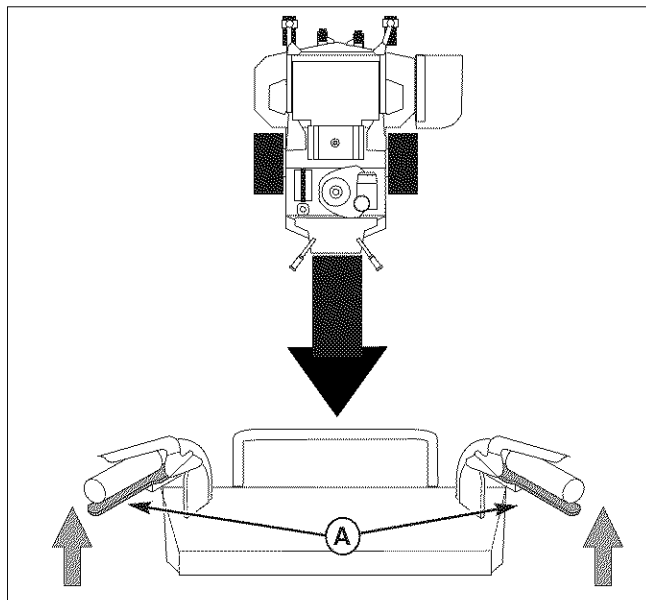

Figure 12. Reverse Travel.
TO MOVE BACKWARD (See Figure 12.)
2. Gently squeeze both reverse speed control levers (A, Figure 12) evenly, until desired speed is achieved.